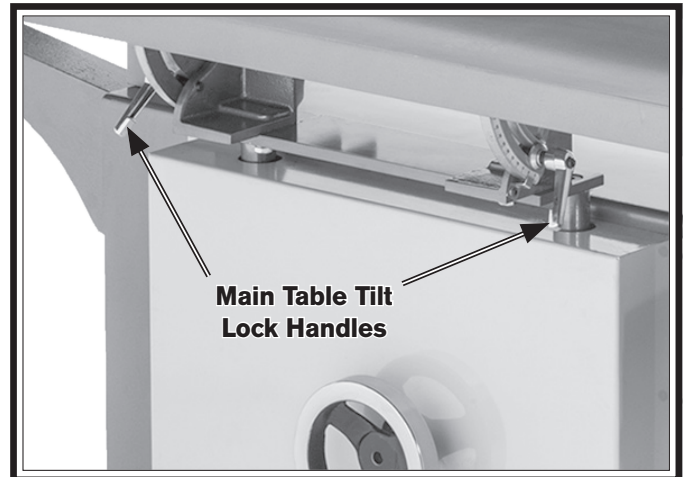

Figure 20. Location of main table tilt lock handles.
8. Loosen main table tilt lock handles (see **Figure 20**).